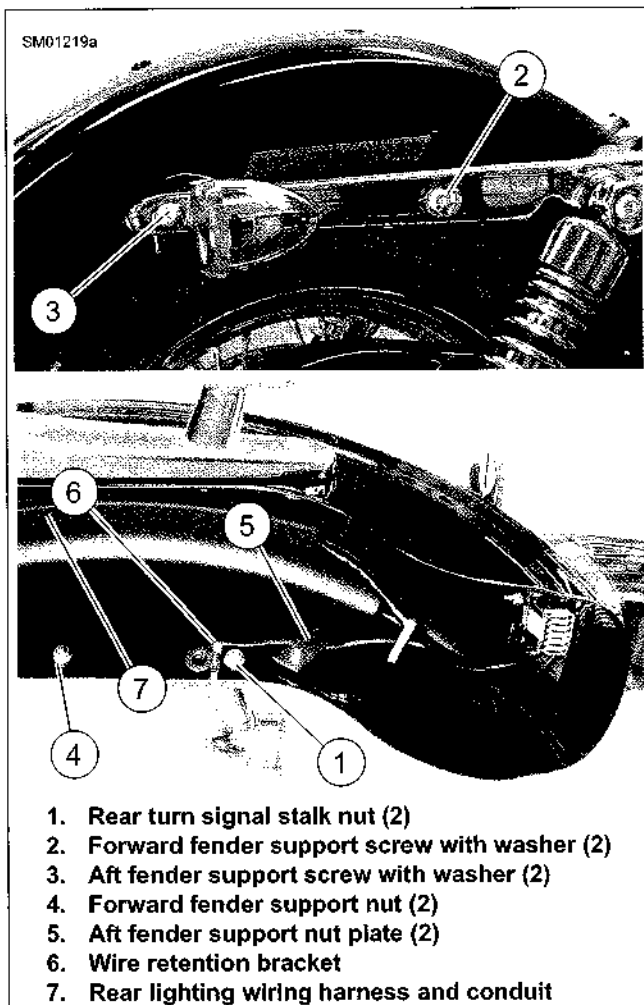

Figure 2-142. Rear Fender, Strut Cover and Turn Signal Lamp Assembly
6. See Figure 2-142. Remove rear turn signal stalk locknuts (1) from inside rear fender on both sides.